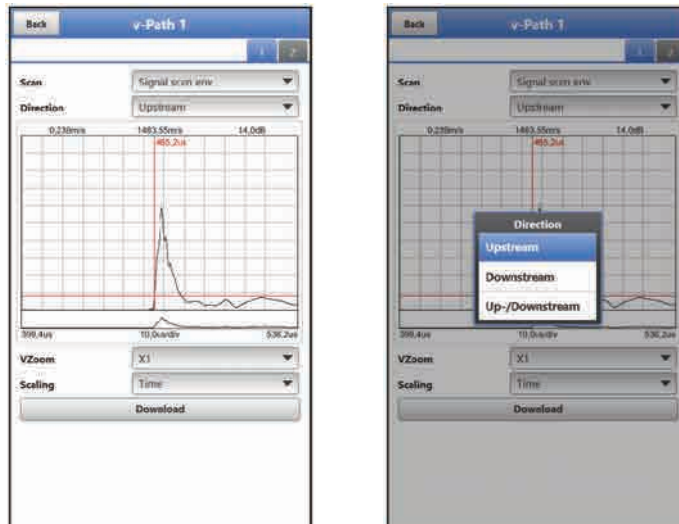

Fig. 49-3 Signal scan envelope
- **>Signal Scan Envelope<** (Fig. 49-3)